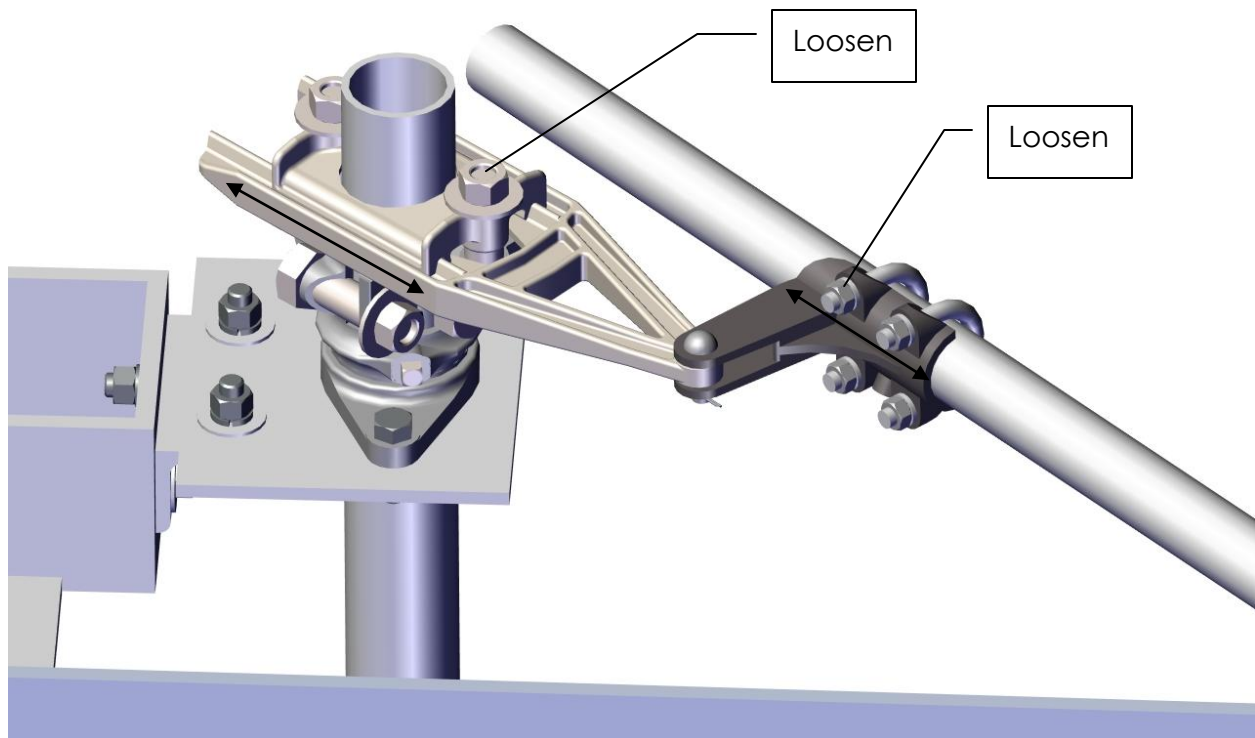

Figure 27: Adjusting the Adjustable Arm
- v) Lengthen the adjustable radius arm approximately $\frac{1}{4}$ -inch. Allow the pipe clevis to reposition itself the same $\frac{1}{4}$ inch. See Figure 27.
- v) Shorten the adjustable radius arm approximately $\frac{1}{4}$ -inch. Allow the pipe clevis to reposition itself the same $\frac{1}{4}$ inch. Refer to Figure 27.